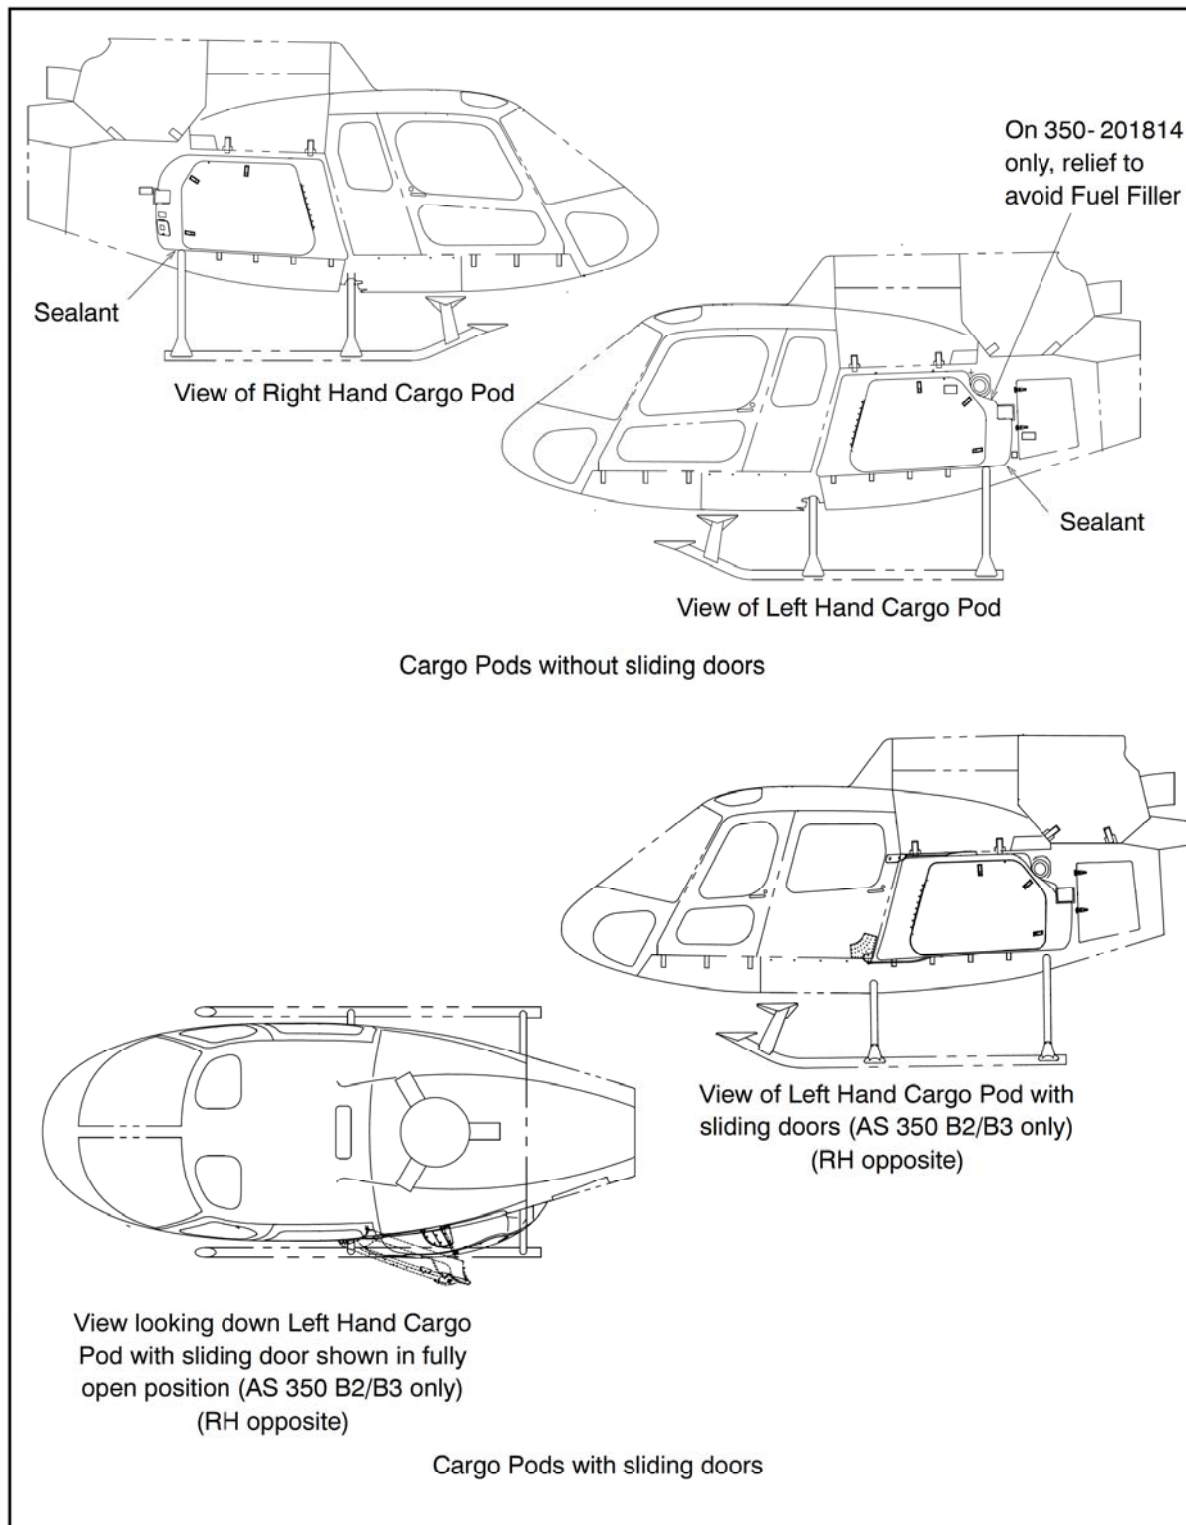

Figure 1 General Layout
- A. The subject Installation of LH and / or RH Cargo Pods comprises one or two pods which provide an increase in cargo bay capacity. The forward opening door allows for easy cargo handling. The Cargo Pods have a non-slip upper surface and maintenance step. Refer to Figure 1 for General Layout.